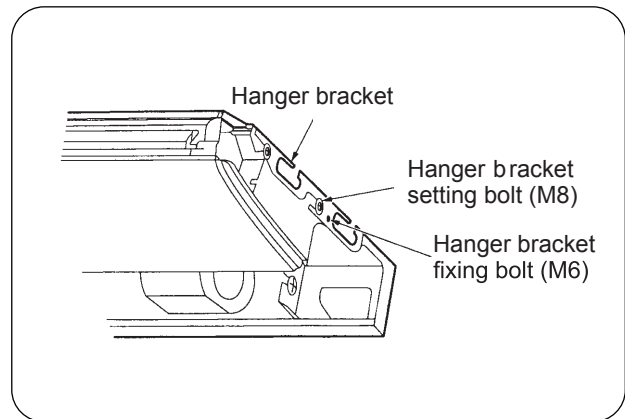

Fig.5
- 2) Loosen two hanger bracket setting bolts (M8) on each side for less than 10mm. Remove two hanger bracket fixing bolts (M6) on the rear side. Detach the hanger bracket by pulling backward (Refer to Fig.5).
- (3) set the suspension bolt (Use W3/8 or M10 size suspension bolts).
- (6) Screw tightly both hanger bracket setting bolts(M8) (Refer to Fig.5).
- (7) Screw tightly both hanger bracket fixing bolts (M6) to prevent the movement of the unit (Refer to Fig.5).